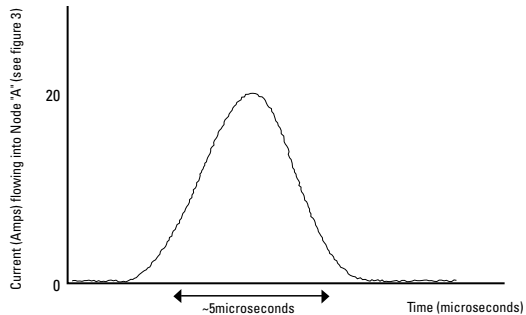

Figure 8: Solenoid current profile with working smart driver when load is shorted
Verifying that the smart driver responds appropriately to a short detection may require analog to digital conversion. Two facts should be verified: (1) the  $\mu$ C registers an over current condition when the solenoid load is shorted; (2) the smart driver reacted appropriately by shutting down to prevent damage. Verifying these facts requires knowledge of the peak and duration of the solenoid current profile, as seen in Figure 8. Finally, interrogation via the serial link will determine if the ECM was informed of an over current condition.